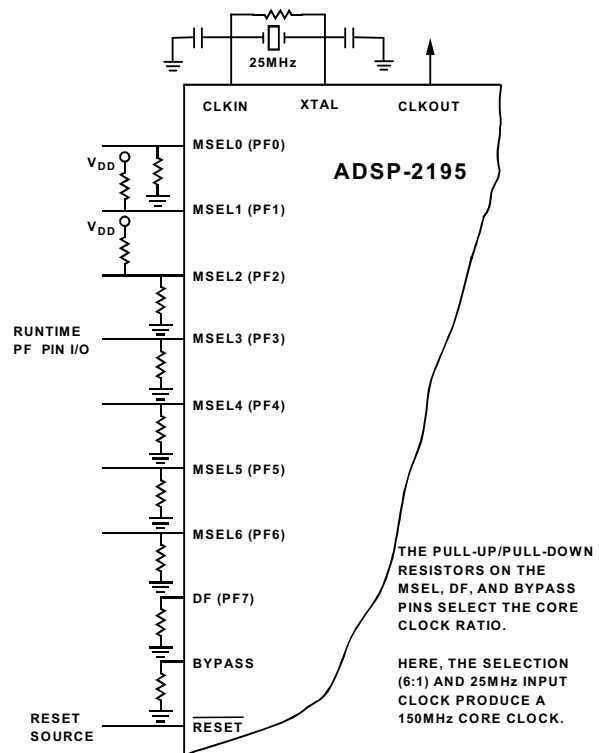

Figure 6. External Crystal Connections
The ADSP-2195 can be clocked by a crystal oscillator or a buffered, shaped clock derived from an external clock oscillator. If a crystal oscillator is used, the crystal should be connected across the CLKIN and XTAL pins, with two capacitors connected as shown in Figure 6. Capacitor values are dependent on crystal type and should be specified by the crystal manufacturer. A parallel-resonant, fundamental frequency, microprocessor-grade crystal should be used for this configuration.
The DSP provides a user-programmable $1 \times$ to $32 \times$ multiplication of the input clock, including some fractional values, to support 128 external to internal (DSP core) clock ratios. The MSEL6–0, BYPASS, and DF pins decide the PLL multiplication factor at reset. At runtime, the multiplication factor can be controlled in software. To support input clocks greater than 100 MHz, the PLL uses an additional input: the Divide Frequency (DF) pin. If the input clock is greater than 100 MHz, DF must be high. If the input clock is less than 100 MHz, DF must be low. The combination of pullup and pull-down resistors in Figure 6 set up a core clock ratio of 6:1, which produces a 150 MHz core clock from the 25 MHz input. For other clock multiplier settings, see the ADSP-219x/2191 DSP Hardware Reference.